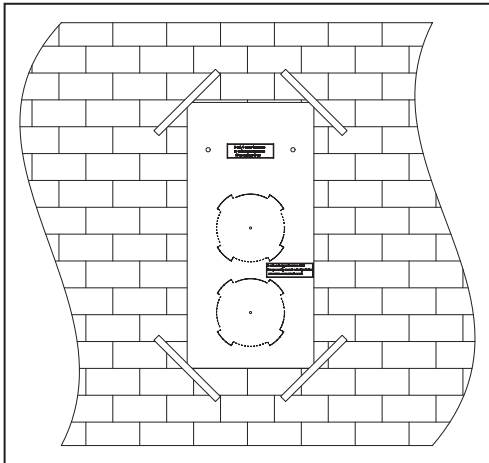

Fig. 5.
1. Fix the master plate from the delivery set on the wall with a sealing tape on required level, fig. 5.
1. Fix the master plate from the delivery set on inner wall side with a sealing tape on required level, fig. 5.
1. Fix one master plate from the into delivery set on the inner wall side with a sealing tape on required level, fig. 5.